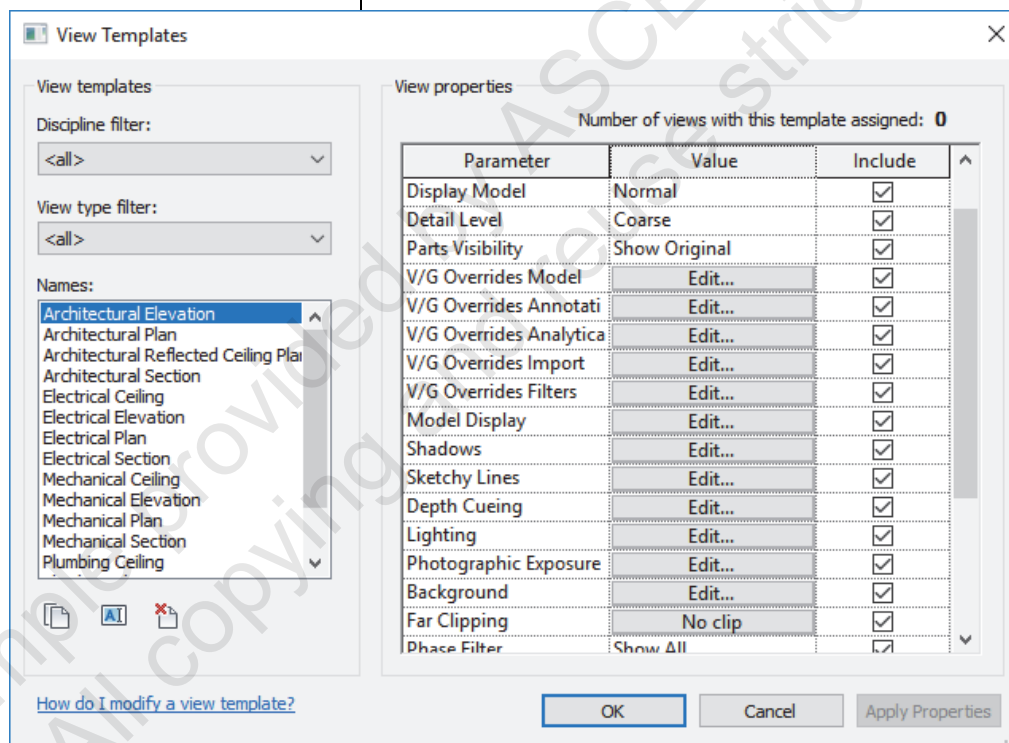

Figure 1–137
4. Select the new view template (as shown in Figure 1–137) and modify the parameter values in the *View properties* area.